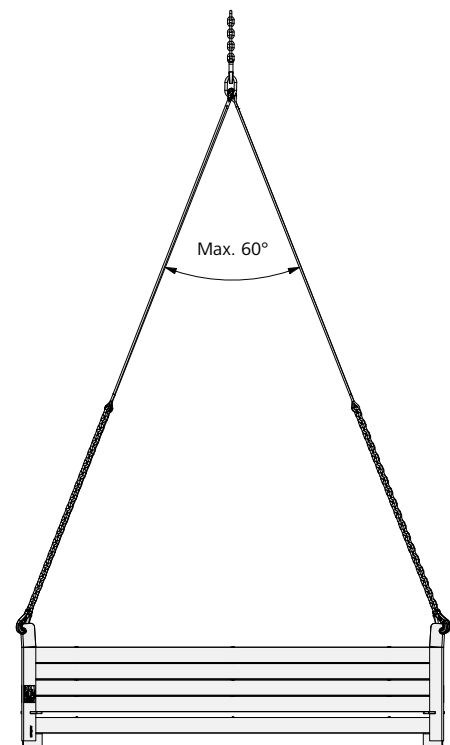

Fig. 73.4
- The opening angle of the crane sling must not exceed 60° (Fig. 73.4).